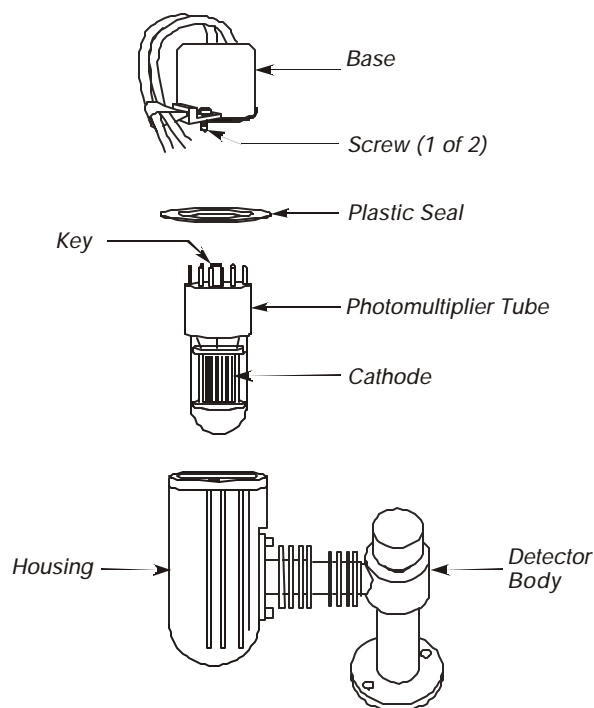

Figure 3- 43 Exploded view of a FPD photomultiplier tube
9. Position the photomultiplier tube in the housing so that the cathode (the horizontal filament grating; not visible in Figure 3- 42) faces the detector body. Align the holes in the plastic seal with the holes in the base.